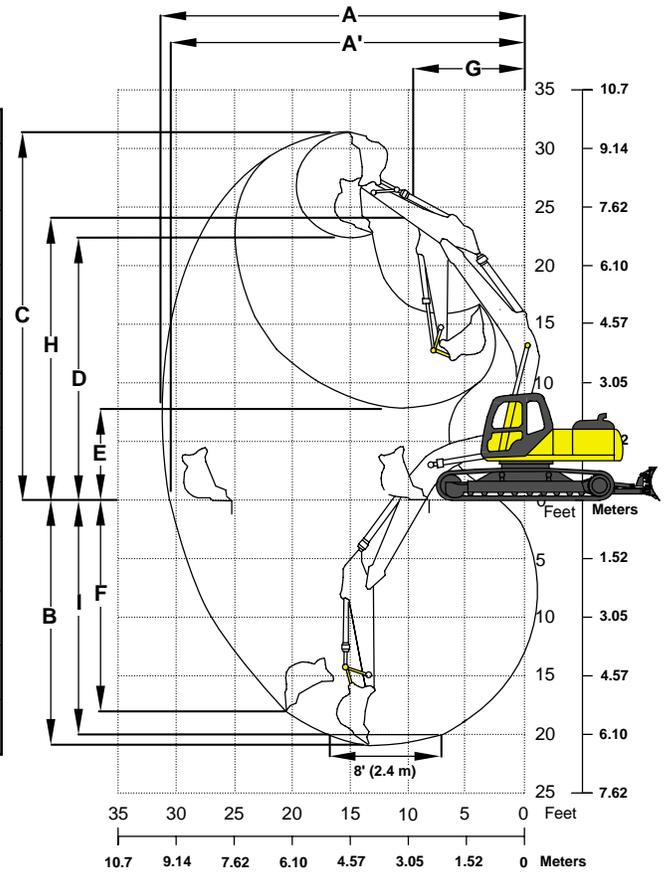

FIGURE 6.3
D. STANDARD ATTACHMENT WORKING RANGES– Figure 6.3	6-3
D. STANDARD ATTACHMENT WORKING RANGES– Figure 6.3